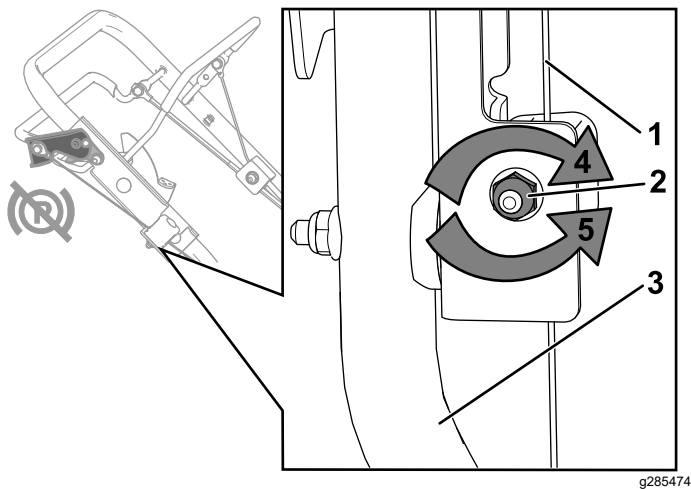

Figure 51
2. Turn the adjustment nut counterclockwise to loosen the cable adjustment (Figure 51).
3. Adjust the tension on the cable (Figure 51) by pulling or pushing the cable jacket and holding that position.